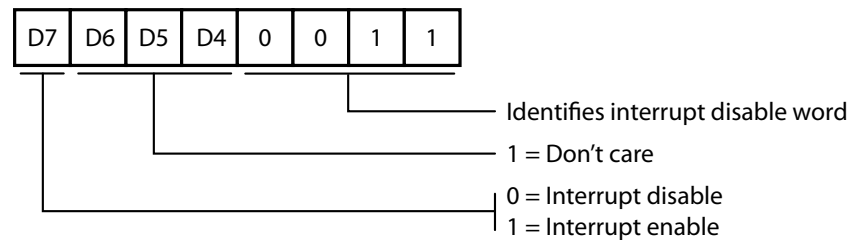

Figure 15. PIO Interrupt Disable Word
**Interrupt Disable Word.** When bits B3 to B0 are loaded with 0011, the command register functions as the Interrupt Disable Word Register. This word can be used to enable or disable a port’s interrupts without change the remainder of the port’s interrupt conditions. See Figure 15.